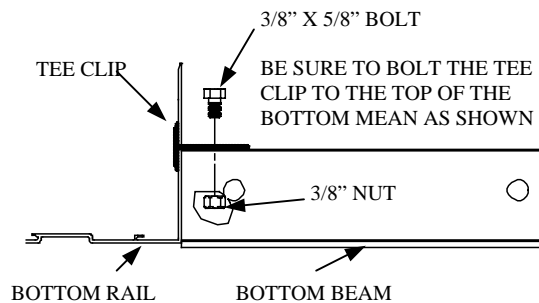
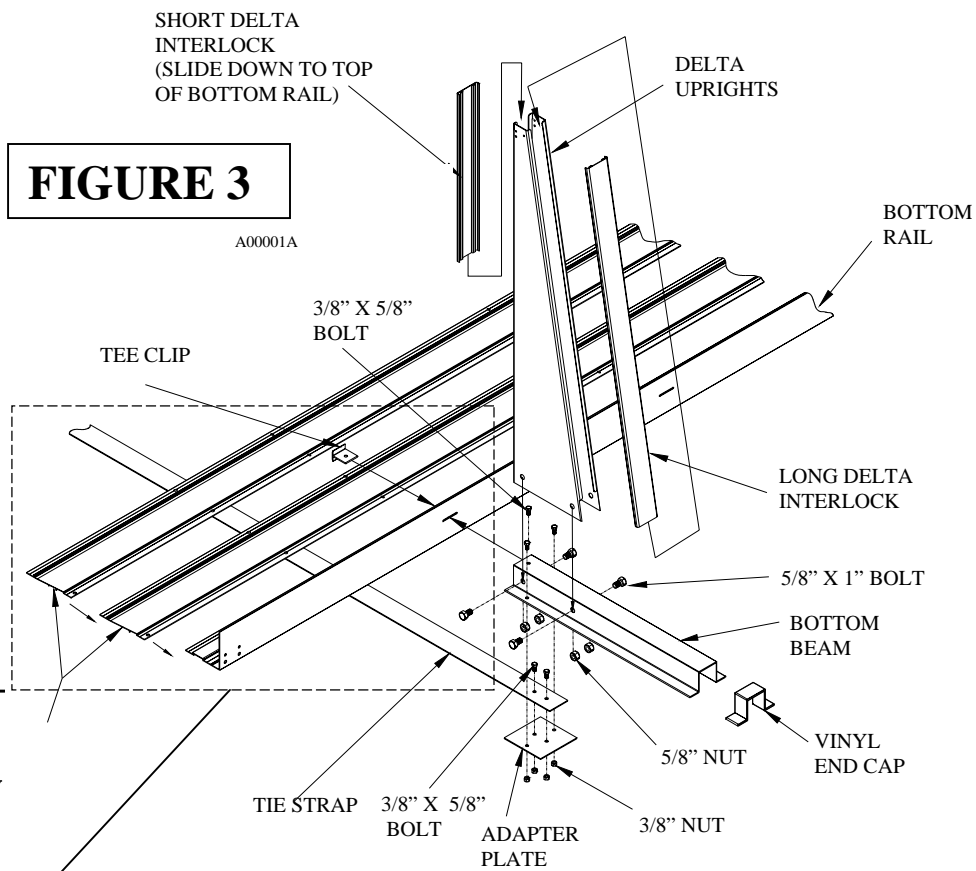

FIGURE 3A
FIGURE 3
Step 3: Attach the left and right sides of the delta uprights to the bottom beams as shown in Figure 3. Slide the tee clip through the slot in the bottom rail and attach to the **top of the bottom beam** as shown in Figure 3A. Bolt the tie straps to the adapter plate then attach the adapter plate to the bottom beam as shown in Figure 3. See Figure 2 for correct tie strap placement. Slide the two correct delta interlocks over the left and right delta upright pieces as shown. Slide the vinyl cap onto the ends of the bottom beams as shown in Figure 3.
Step 4: Interlock the mud sills into the bottom rail as shown in Figure 3. Bolt the Mud sills to the bottom rail as shown. Attach the bottom rail/mud sill assembly to the tie straps with #12 X 1" screws as shown in Detail 4.